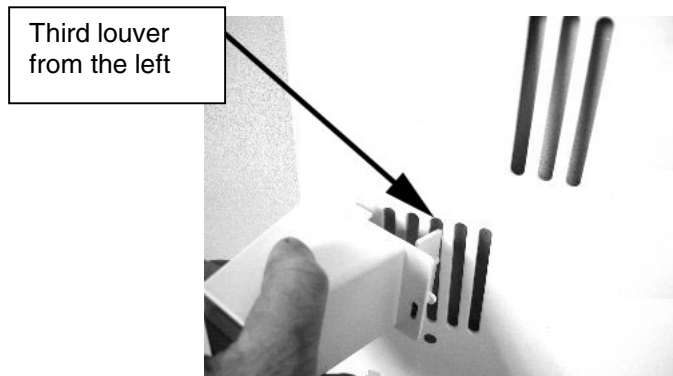

Figure 2
- Turn the icemaker air tunnel 90°. Insert the air diverter into the upper evaporator coil cover louvers, second row third slot in from the left. (See figure 2).